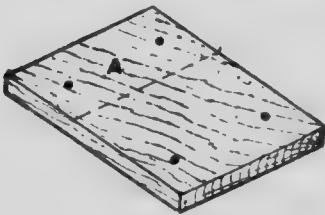
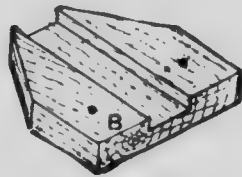

Fig. 16
Fig. 17
Figs. 16 and 17.—Details of Home-made Plough
Home-made ploughs are serviceable tools, and can be constructed from simple material, such as a chisel, some pieces of wood, and a few screws. Knock off the handle from an ordinary  $\frac{1}{2}$ -in. chisel having a "shoulder" near the haft, and replace it with a cork; cut to the shape of Fig. 16 a piece of thin wood (say  $\frac{1}{4}$  in. thick)  $2\frac{1}{2}$  in. in breadth, its length depending on the length of the chisel. Place the chisel on the wood so that the cutting end overhangs about  $1\frac{1}{8}$  in.; at the other end mark where the shoulder of the chisel touches the wood, and cut across just above the mark so that the shoulder falls over the edge and allows the chisel to lie flat on the wood. Cut another piece of wood thicker than the last (of full  $\frac{1}{4}$ -in. stuff) to the shape of Fig. 17.
B. Put the second piece of wood, groove downwards, on the first one so that the square end B of Fig. 17 rests upon the portion marked A of Fig. 16, allowing the pointed end to overhang. Screw the two pieces together from underneath, taking care
to countersink the screw-heads. In the tunnel thus formed insert the chisel with its *bevelled edge upwards*, as it must always be when in use, and see that it has a rather loose fit. If it is all right, the cutting edge will project about  $\frac{3}{8}$  in. at one end, and the shoulder will just fall over the edge at the other end. In a piece of wood c (Fig. 18), measuring, say, 2 in. by  $\frac{1}{2}$  in. by  $\frac{1}{2}$  in., make a groove of the same width as before, but a trifle deeper than the groove is at B (Fig. 17). Screw this last piece to the foundation A (Fig. 18) so that the groove en-
of course, intended to be pushed to and fro upon the right cheek of the press; but the tool, as it stands, will not cut straight through so as to leave a nice flat surface, but will rise until it has made a "hog's-back." To prevent this, provide a bar of wood  $\kappa$  (Figs. 18 and 19), which should be fixed at one end to the top  $G$  of the plough, and should rest at the other end on a guide-rail  $J$  fixed to the top face of the left cheek of the press. The bar should be rigid, say of  $\frac{1}{2}$ -in. stuff about 8 in. long, and be fixed to the plough with two screws. The top surface of the rail must be level with the top face of  $B$  (see Fig. 18); the easiest way to effect this will be to make the rail  $J$  of the same stuff as Fig. 17, and let it stand at each end on feet  $L$  (Fig. 18), made of the same stuff as Fig. 16. The bar will then lie quite horizontal across the press. Notice, too, that the rail  $J$  should be set back 1 in. or more from the inner edge of the left cheek, otherwise it will interfere with the "backing" operations.